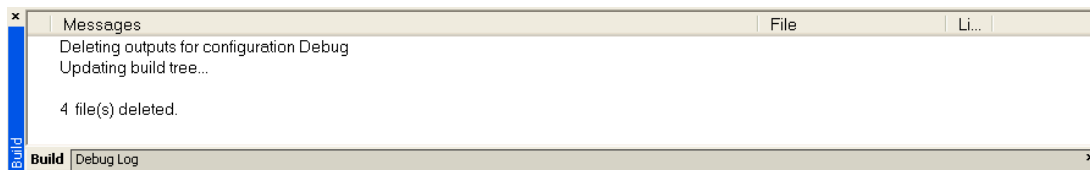

Figure 31 · Files Deleted Message
17. After cleaning the project, a message is displayed in the **Message** log, as shown in Figure 31 .